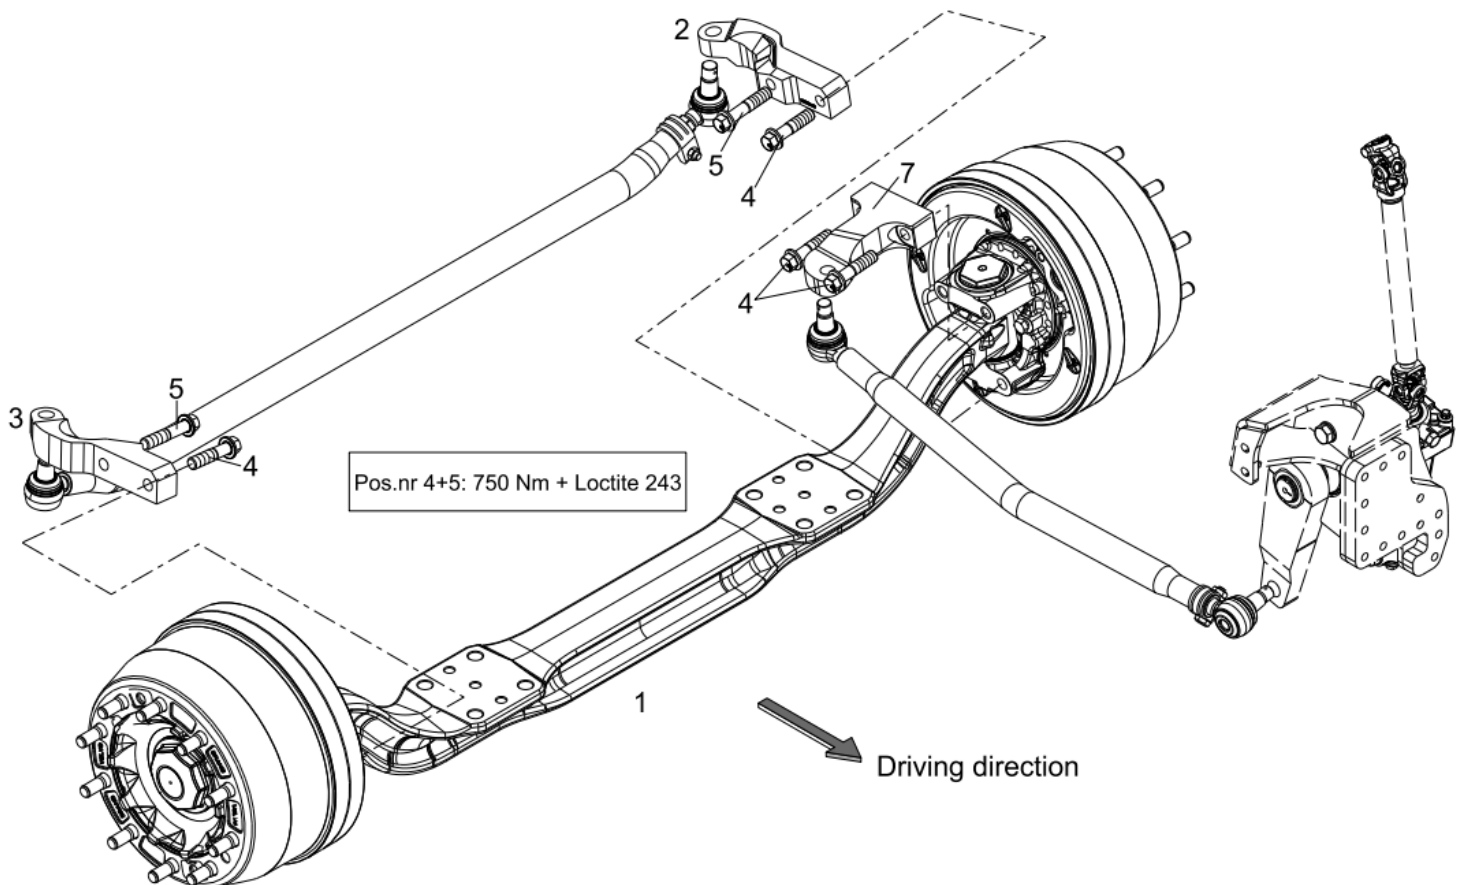

figure 1, front axle steering arms, parts group 60-01-01-146
5. Remove the 2 bolts that connect the upper steering arm (position 7 in figure 1) to the left hand side steering knuckle.
11. Remove the bolts that connect the lower steering arms (position 2 and 3 in figure 1) to the steering knuckles.